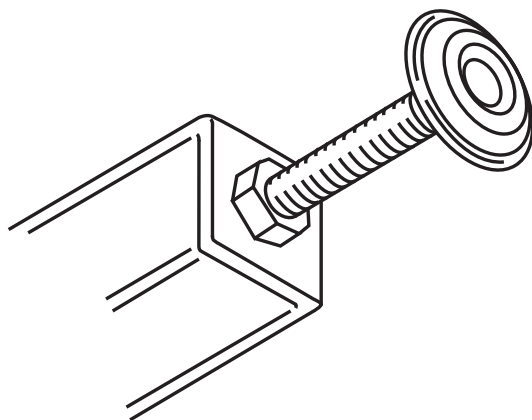

Figure 4. Adjusting a leg leveler and tightening nut.
4) Locate the game's four legs. Adjust the tightening nut and leg leveler on each leg (see figure 4). For the two front legs, position the nut all the way down, next to the foot of the leveler. For the two rear legs, position the nut approximately two-thirds of the way up the leveler. Thread the leveler into each leg until the tightening nut is against its underside.